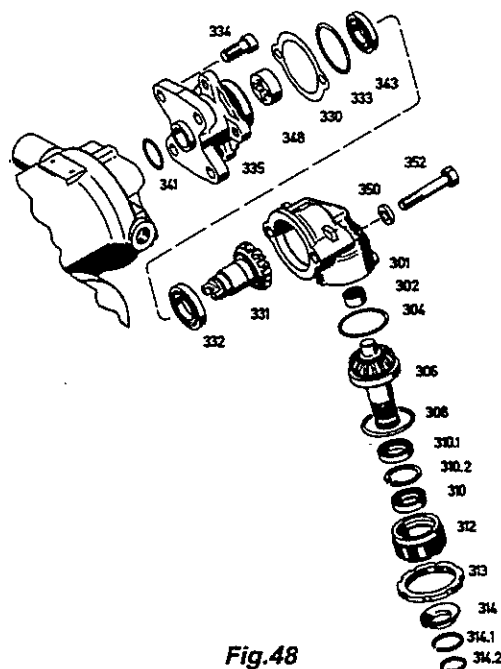

Fig.48
17.1.1 Fit intermediate flange (335)
Slip O-ring (341) onto intermediate flange (335). Press cross disc (348) and ball bearing (343) onto intermediate flange (335) (*Fig.48*). Use tool [28] for this purpose.
Press needle sleeve (302) into housing (301) as far as possible with tool [29] (*Fig.48*).